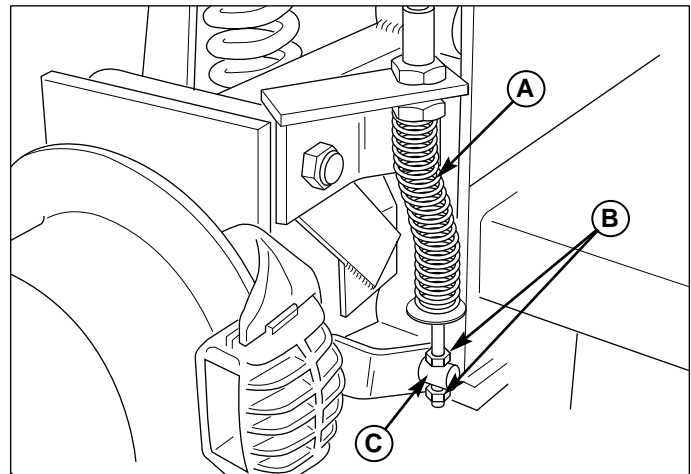

Figure 23. Parking Brake Adjustment
5. Locate the lower brake spring, adjustment nuts and adjustment link (A, B & C, Figure 23).
6. Release the parking brake and turn the adjustment nuts to compress or release the upper spring. Lock the nuts against the adjustment link (C, Figure 23).